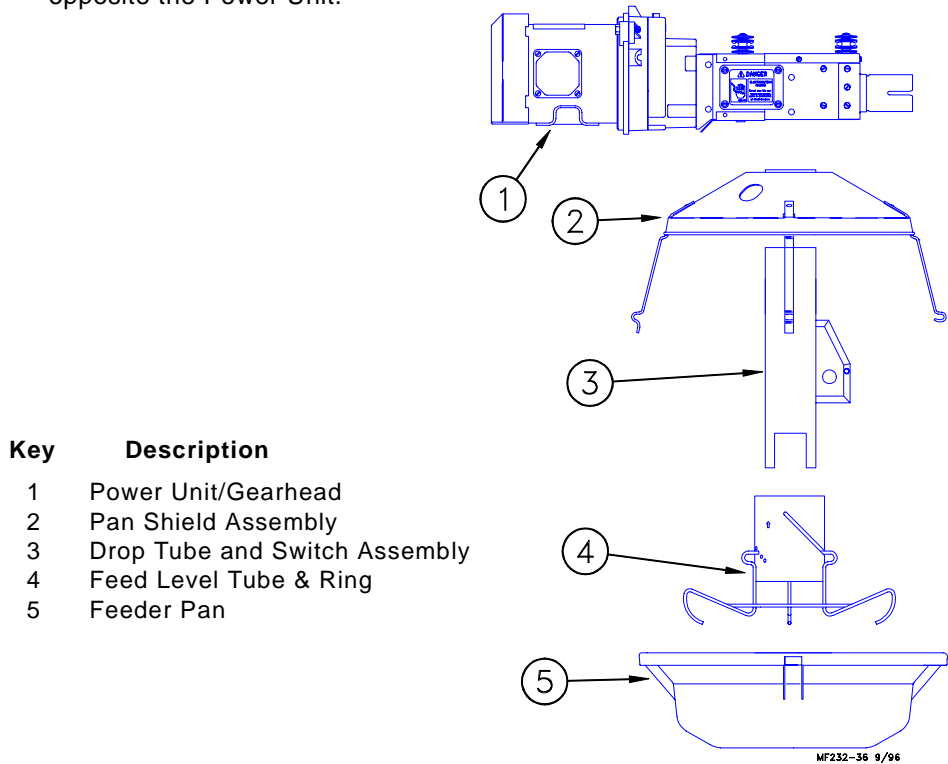

Figure 10. Drop Tube and Switch Assembly Installation. (side view)
- 5. Insert the Drop Tube and Switch Assembly through the Pan Shield, from the bottom. See Figure 10. The hole in the Pan Shield should be located on the same side of the Drop Tube as the Switch Cord and directly under the white box on the body assembly. Bolt the Drop Tube to the Body Assembly. The switch on the Drop Tube should be mounted opposite the Power Unit.